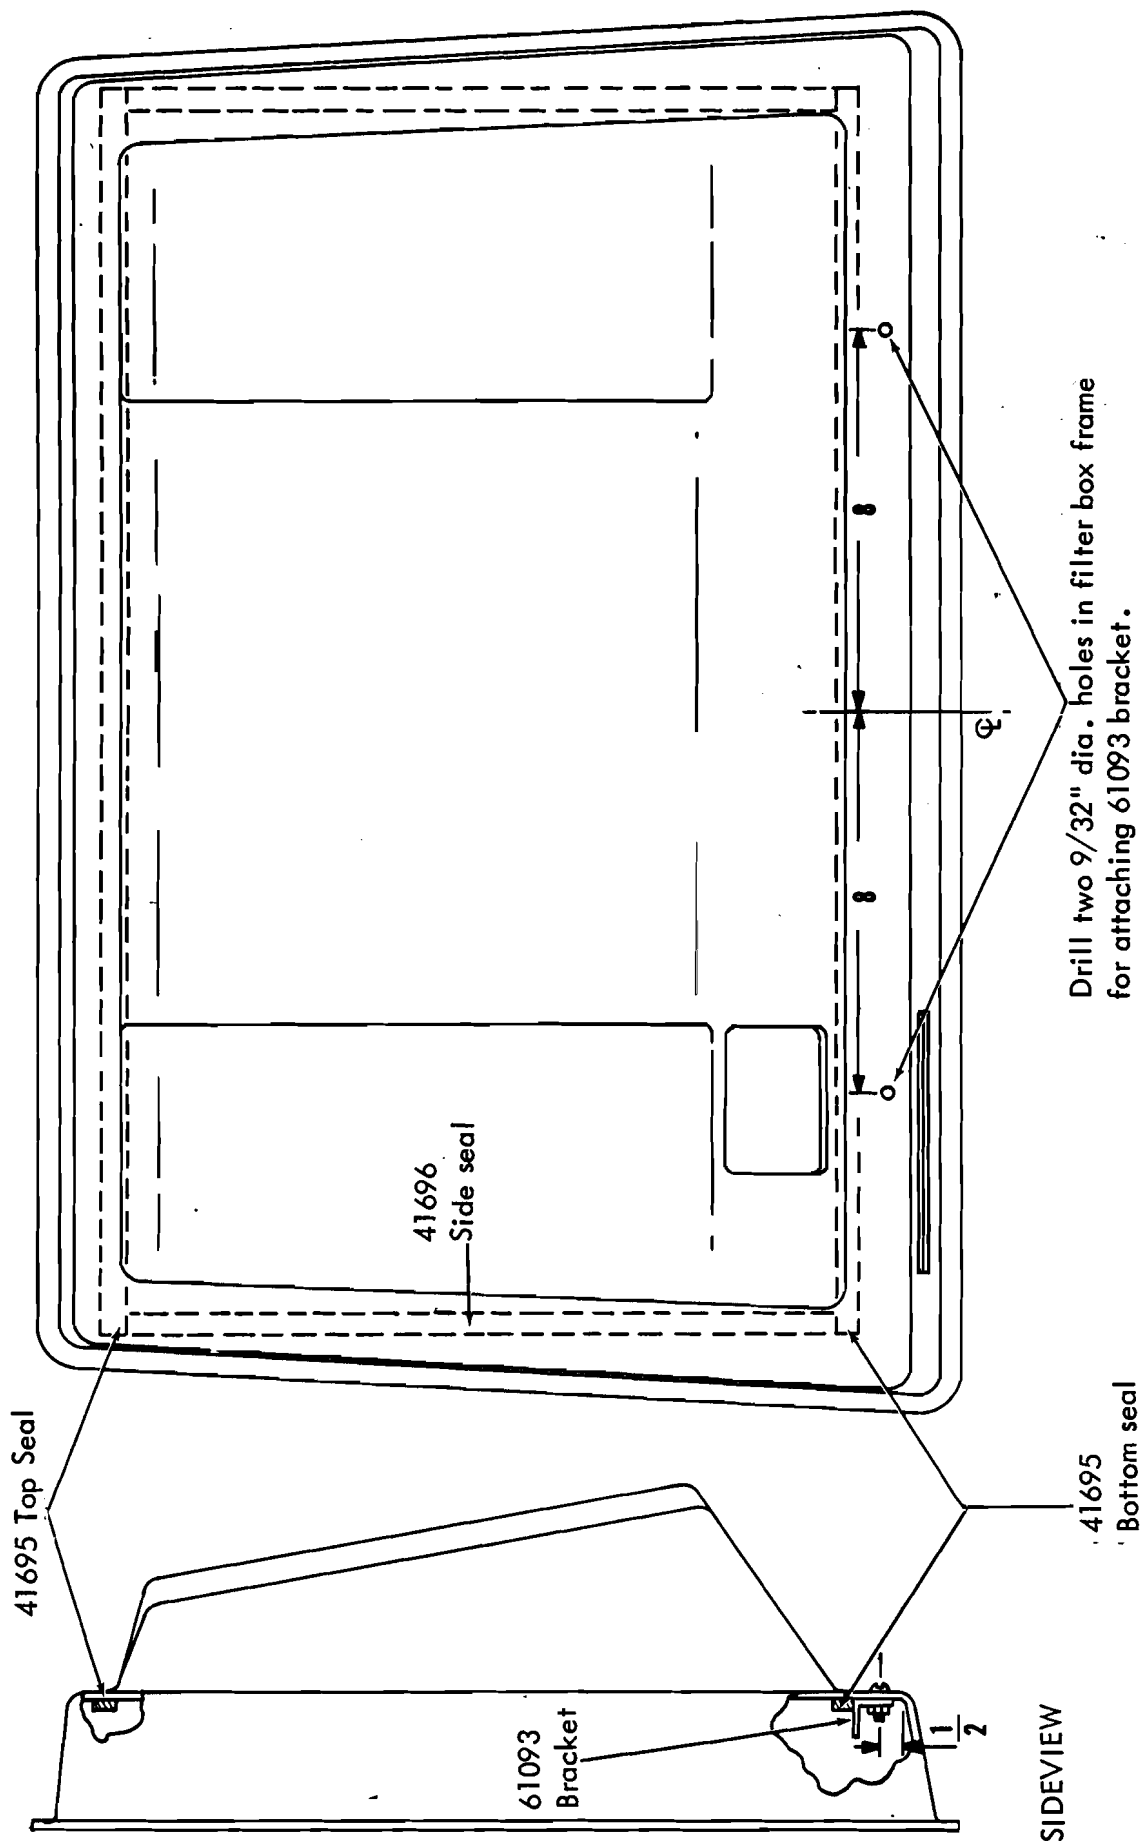

Fig 1 - Installing New Bracket & Seals
2. Drill two 9/32" dia. holes in the bottom of filter box housing as shown in Fig. 1. These holes will be used to mount the new filter bracket.
3. Bolt the new "L" - shaped filter bracket #61093 in place as shown in Fig. 1. Use screws, nuts, etc. which were used to attach old retainer.
4. There are two 25" seals (#41695) used at top & bottom. The two side seals (#41696) are 16 1/2" long. Install the new seals in the positions shown in Fig. 1. Peel off the backing strip and press the seals into place - making sure that the seals are positioned correctly. They must fit up against each other closely enough to prevent any air leaks.